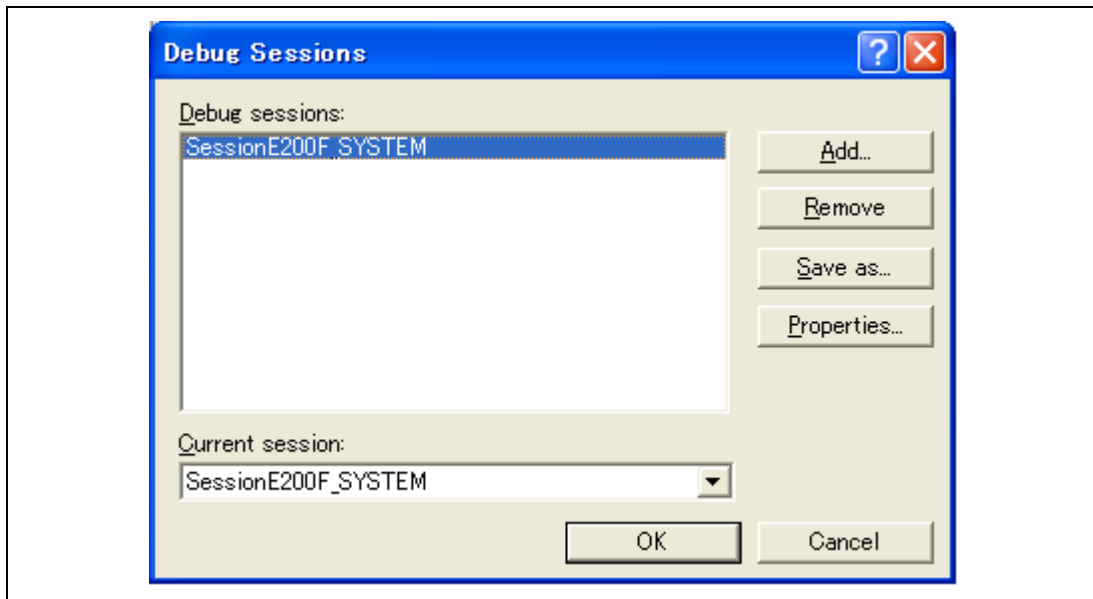

Figure 4.34 [Debug Sessions] Dialog Box
1. Select [Debug -> Debug Sessions...]. This will open the [Debug Sessions] dialog box (figure 4.34).
1. Select [Debug -> Debug Sessions...] to display the [Debug Sessions] dialog box (figure 4.34).
1. Select [Options -> Debug Sessions...] to display the [Debug Sessions] dialog box (figure 4.34).